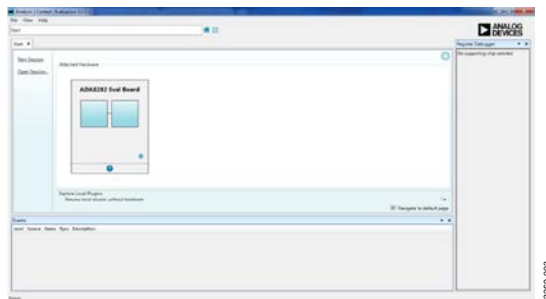

Figure 3. ACE Executable
6. Upon running the software, the hardware should automatically be detected (see Figure 3).